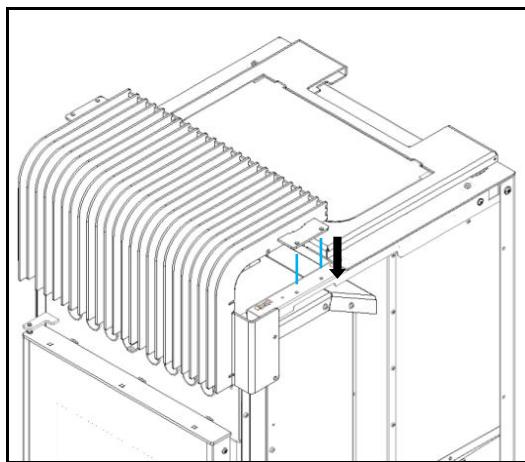

Figure 85 – Fitting the front grille
- c) In the upper part of the grate, fasten with two screws **C** (DIN 7981 4,2x9,5) directly to the cover previously placed, then fix with two screws **A** (DIN 912 M5x12) and use nuts **B** (Nuts M5 DIN 6923), finally , with two screws **C** (DIN 7981 4,2x9,5) attached to the lower part directly on the machine, as shown in Figure 85.